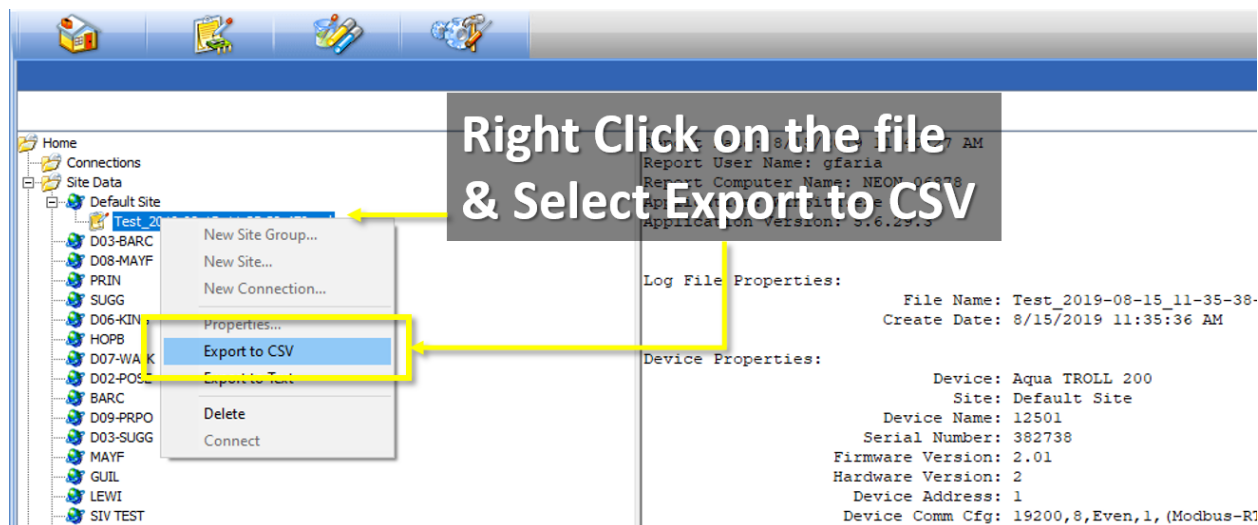
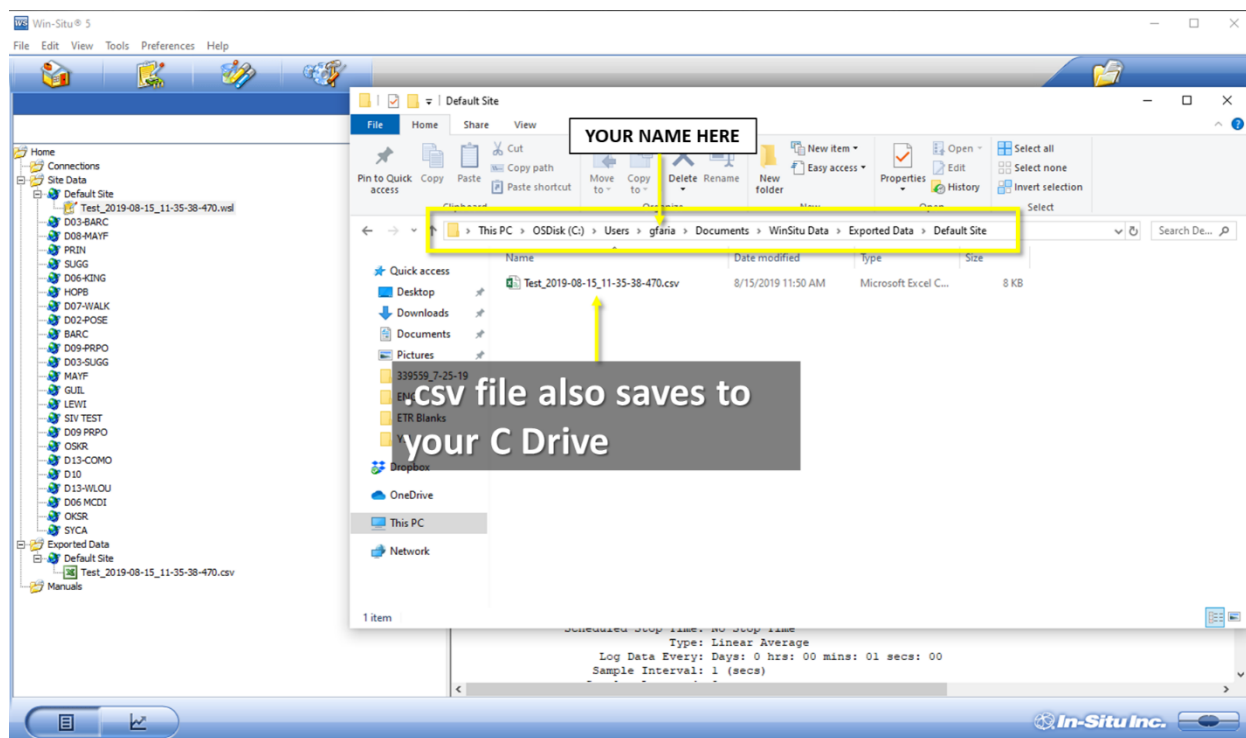

Figure 31. Right Click on the Data File & Select "Export to CSV" from the Dropdown Menu
Figure 32. The Data Saves under an "Exported Data" Folder on your C Drive
6. In order to upload the data file, you need to turn it in a **.csv** (comma-separated values) file. Right click on the data file and click **"Export to CSV"** from the dropdown menu (Figure 31). This saves the data under an **Exported Data** folder on your C drive (Figure 32).